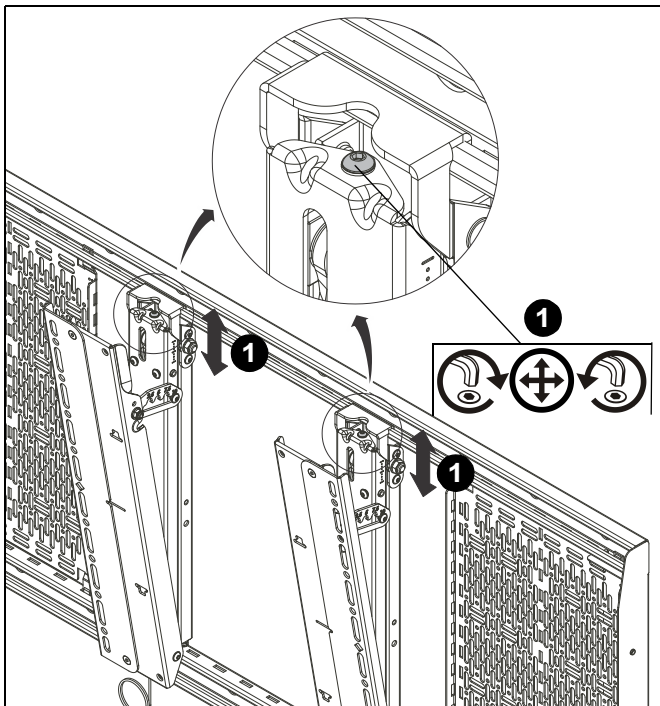

Figure 35
1. Adjust micro height-adjustment screws to make minor adjustments to height of each interface bracket (A and B). (See Figure 35)